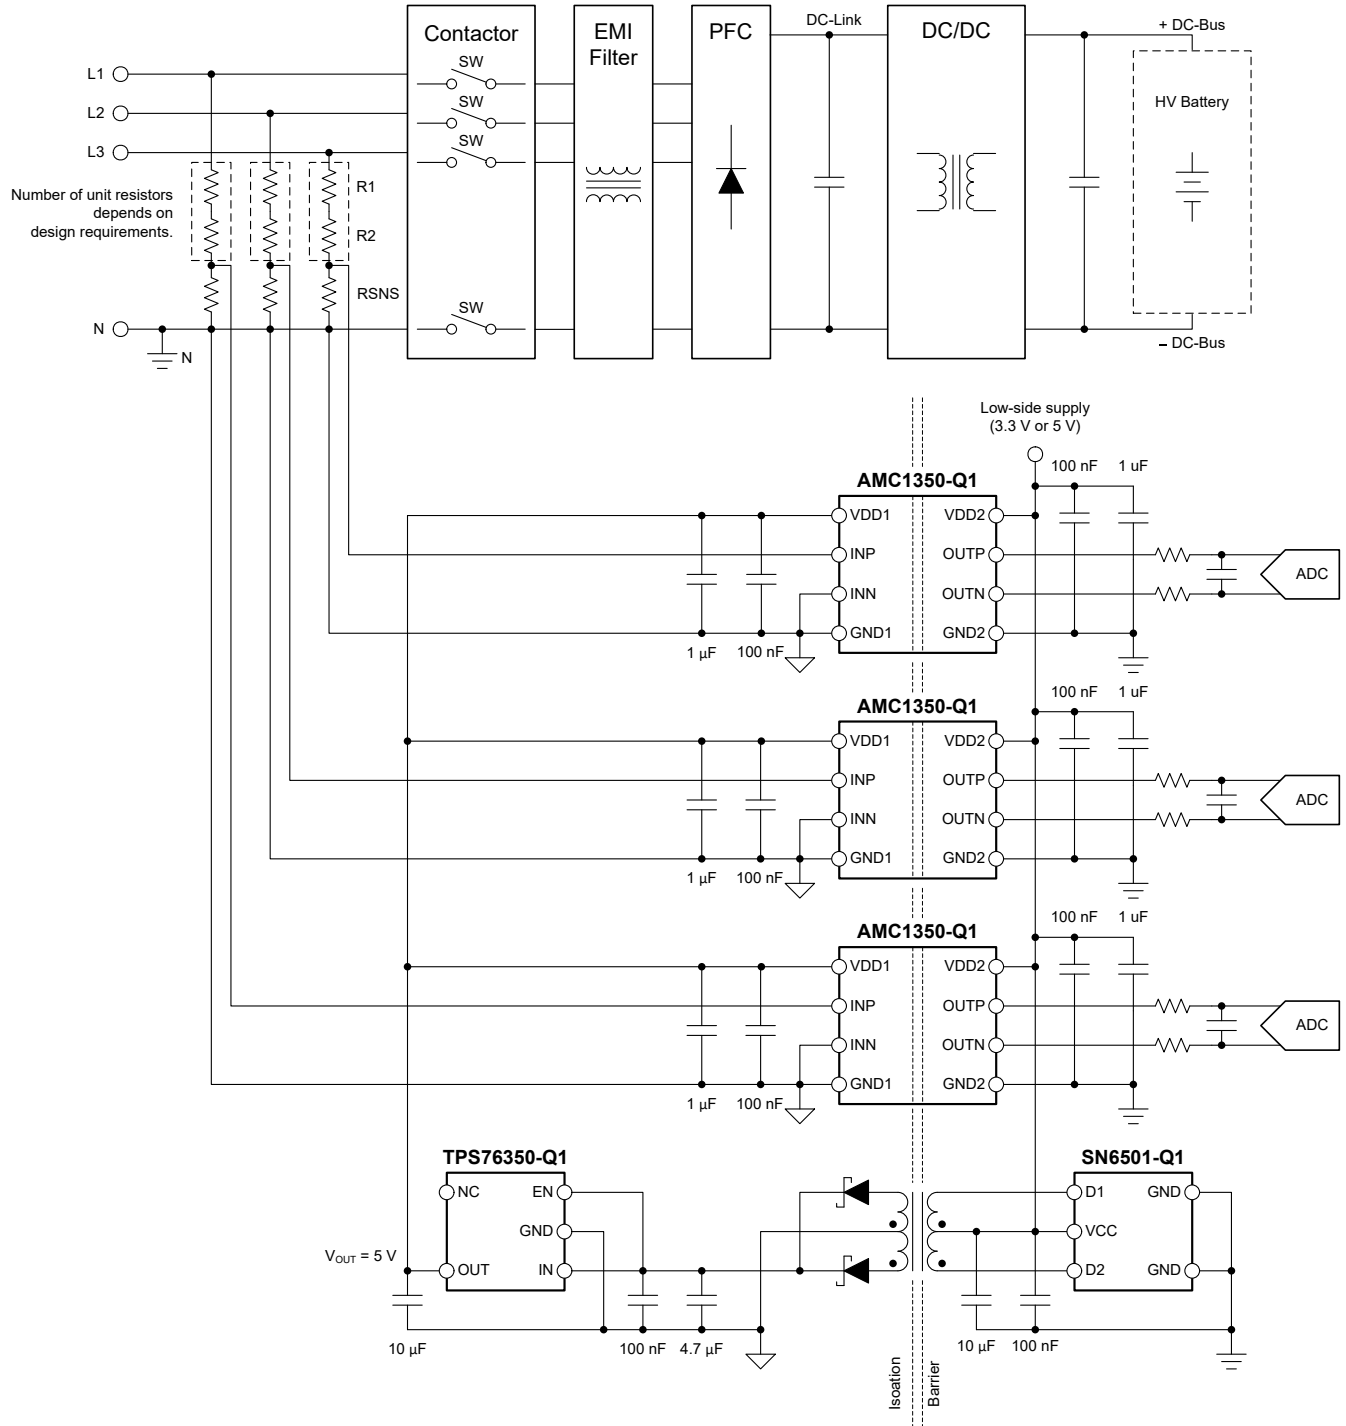

图 8-1. Using the AMC1350-Q1 for AC Line-Voltage Sensing in an OBC Application
**图 8-1** illustrates a simplified schematic of an onboard charger (OBC) application that uses three AMC1350-Q1 devices to measure the AC line voltage on each phase of a three-phase system. The AC line voltage is divided down to an approximate $\pm 5\text{-V}$ level across the bottom resistor (RSNS) of a high-impedance resistive divider that is sensed by the AMC1350-Q1. The output of the AMC1350-Q1 is a differential analog output voltage proportional to the input voltage but is galvanically isolated from the high-side by a reinforced isolation barrier. A common high-side power supply (VDD1) for all three AMC1350-Q1 devices is generated from the low-side supply (VDD2) of the system by an isolated DC/DC converter circuit. A low-cost solution is based on the push-pull driver SN6501-Q1 and a transformer that supports the desired isolation voltage ratings.
The 100-μA, cross-current requirement at peak input voltage (360 V) determines that the total impedance of the resistive divider is 3.6 MΩ. The impedance of the resistive divider is dominated by the top resistors (shown exemplarily as R1 and R2 in 图 8-1) and the voltage drop across RSNS can be neglected for a short time. The maximum allowed voltage drop per unit resistor is specified as 75 V; therefore, the total minimum number of unit resistors in the top portion of the resistive divider is 360 V / 75 V = 5. The calculated unit value is 3.6 MΩ / 5 = 720 kΩ and the next closest value from the E96 series is 715 kΩ.